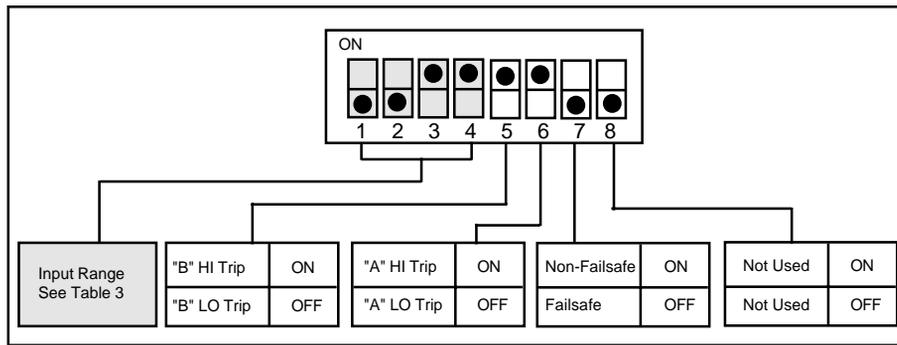

Figure 4: G118 Input Range/Function Selection (SW1) Factory Default Settings
3. Set position 5 and 6 of input range switch "SW1" to ON for a HI trip setpoint or OFF for a LO trip setpoint (Figure 4).